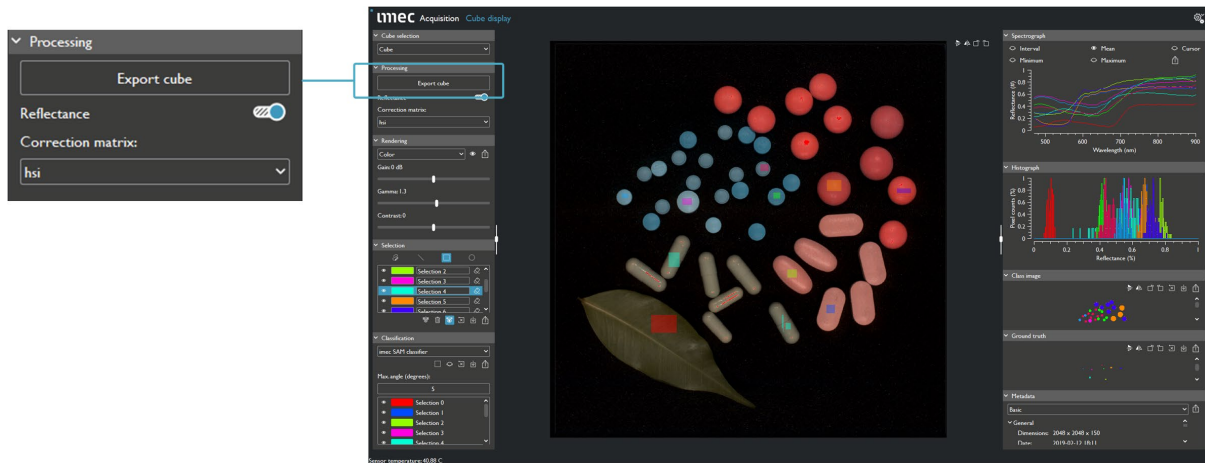

Figure 100 “Export Cube” selection button in the “Cube display” GUI.
Step 1 - Click “Export cube” button on the left-hand side panel (see Figure 100).